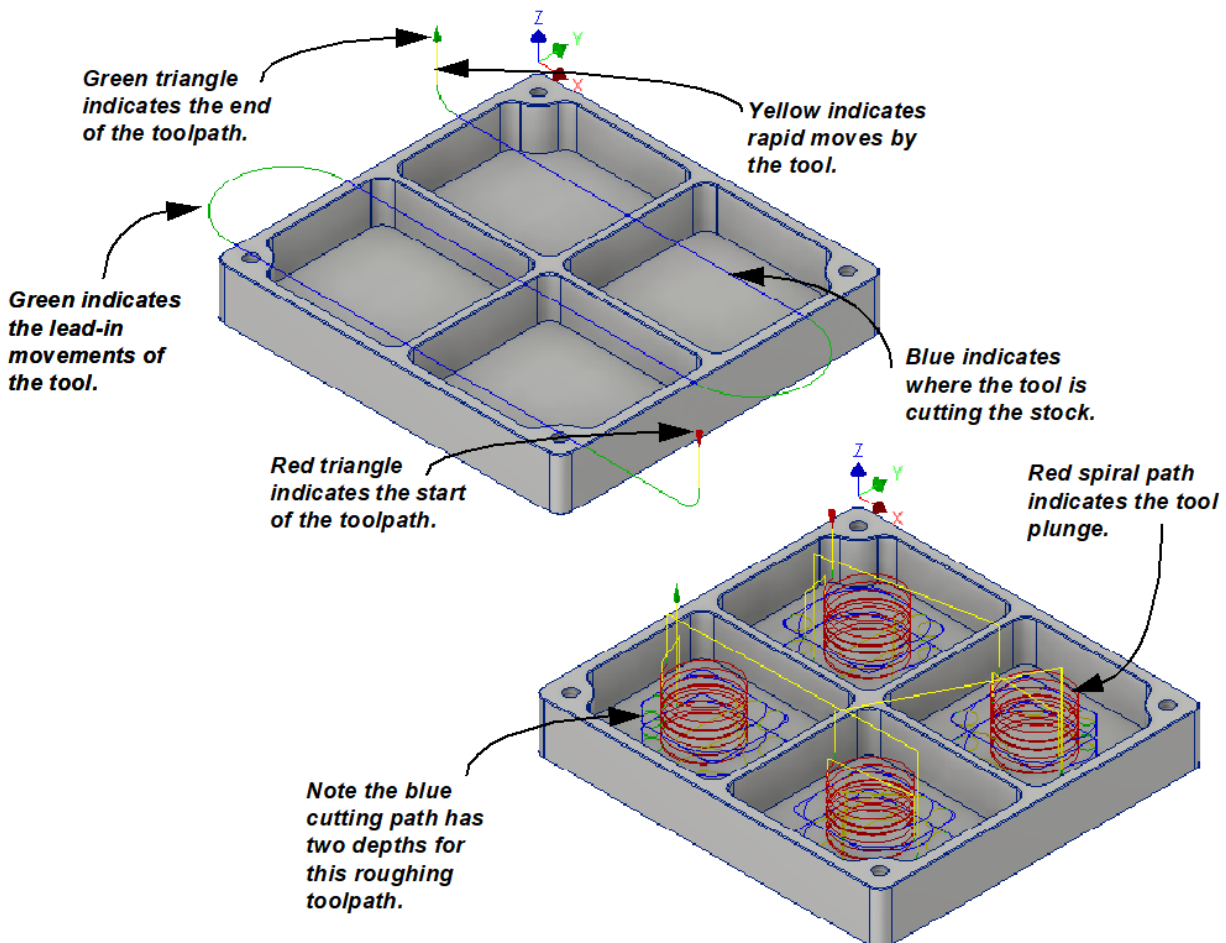

Figure 6
- To display a toolpath in the graphics window, select the toolpath name in the CAM browser. The toolpath movements are color coded as shown in Figure 6.